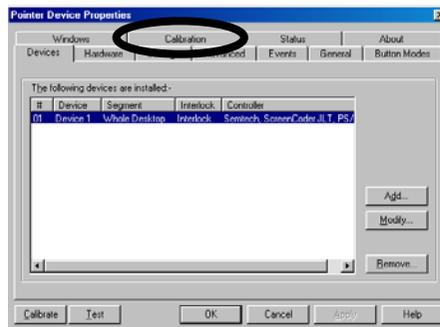

Figure C.2 Touch Screen Calibration
3. Click on the 'Calibration' tab (Figure C.2).